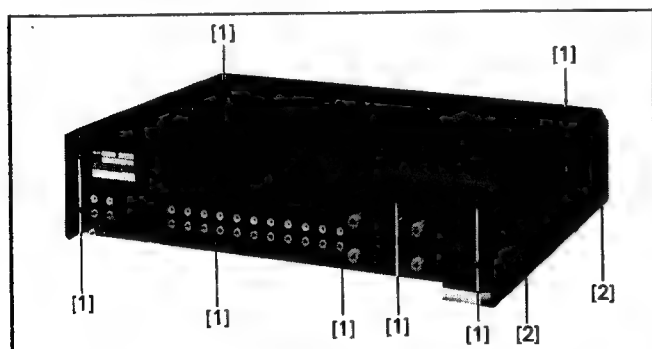

Fig. 2.1
- Remove 9 screws (1) on the top and rear (Fig. 2.1).
- Unfasten 2 screws (2) on each side (Fig. 2.1).